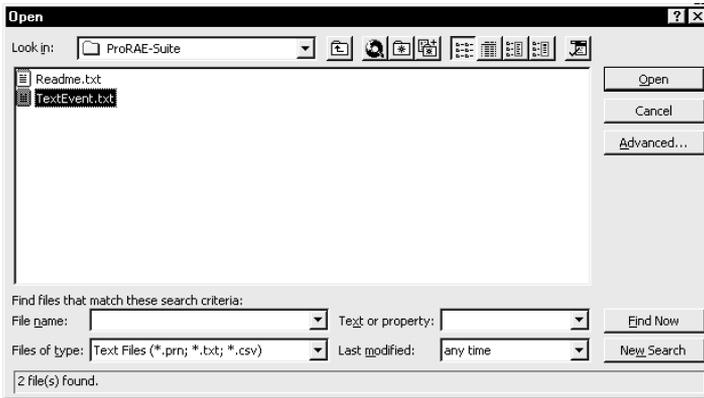

Figure C-2 **Open** Dialog Box
- Click the **File->Open** menu item to open the **Open** dialog box, select the folder where the file **TextEvent.txt** resides, and select the **Files of type** as **Text Files**. Click to select the file **TextEvent.txt**, as shown in Figure C-2.